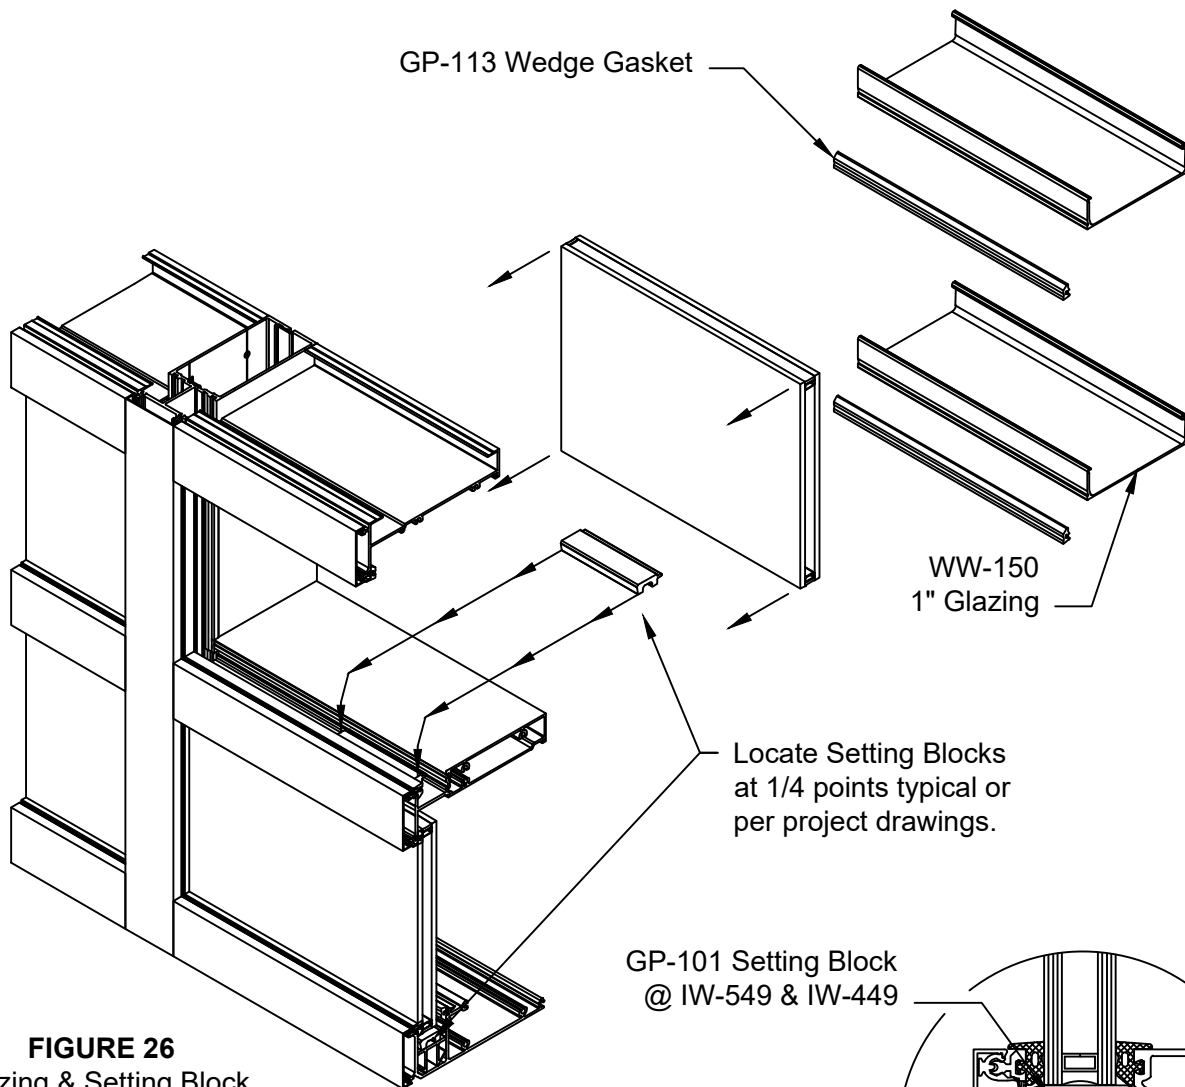

FIGURE 26
Note: Consult glass manufacturer for correct setting block location and length for glass sizes in excess of 40 sq. ft. SEE FIGURE 26, page 24.
- 4.3 Set glass in opening from the interior. System should be glazed from bottom to top. Place one edge of the glass into the deep pocket of the vertical. Swing the glass into the adjacent vertical pocket and lower onto setting blocks, ensuring that the glass bite is equal on all sides. SEE FIGURE 26, page 24.